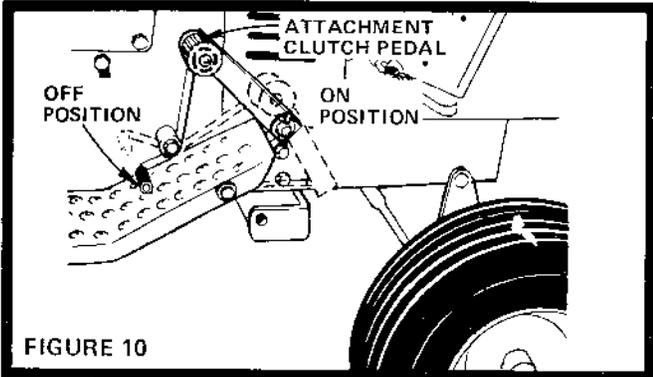
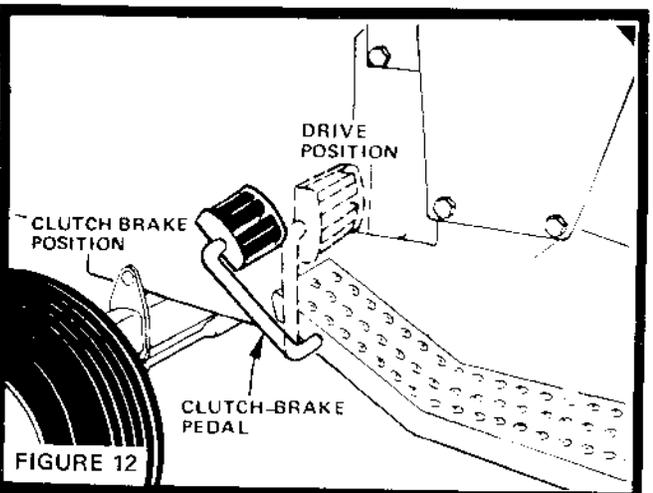

FIGURE 10
FIGURE 12
THIS TRACTOR IS EQUIPPED WITH SAFETY SWITCHES TO PREVENT STARTING OF THE TRACTOR ENGINE WHILE THE ATTACHMENT CLUTCH PEDAL IS IN THE "ON" POSITION (FIG. 10) AND THE CLUTCH BRAKE PEDAL IS IN DRIVE POSITION (FIG. 12).
2. Place Attachment Clutch Pedal in "OFF" position (Fig. 10).
5. Push Clutch-Brake Pedal into brake position (Fig. 12).